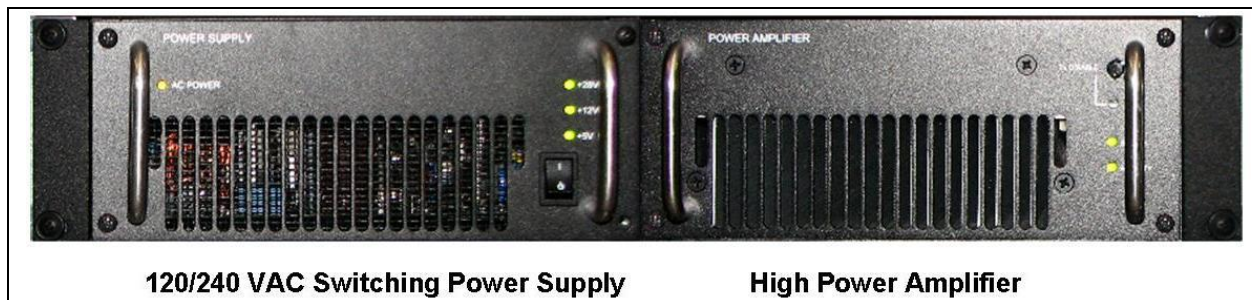

Figure 4-3: MASTR V HPA/PS Shelf Assembly (Shown with HPA and PS Installed)
The High Power Amplifier (HPA) (refer to Section 4.4.7) and the Power Supply (PS) (refer to Section 4.4.7.1) are installed in a 19" rack mountable, 2-slot metal shelf, model MA-555003 (refer to Figure 4-3). The HPA/PS shelf is a mechanical-only assembly with no electrical components.